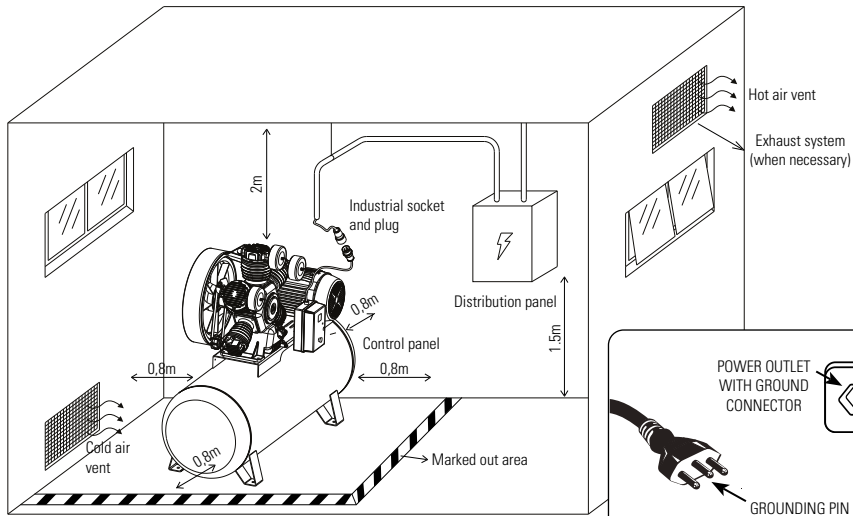

FIGURE 6.10 - DETAIL OF THE COMPRESSOR POWER SUPPLY AND INSTALLATION FROM THE DISTRIBUTION PANEL
- The maximum recommended ambient temperature for operation is 40°C and minimum of 5°C. Install an exhaust system if necessary (Figure 6.10).
- Properly mark and delineate an area around the compressor to alert and prevent collisions with the equipment (Figure 6.10).